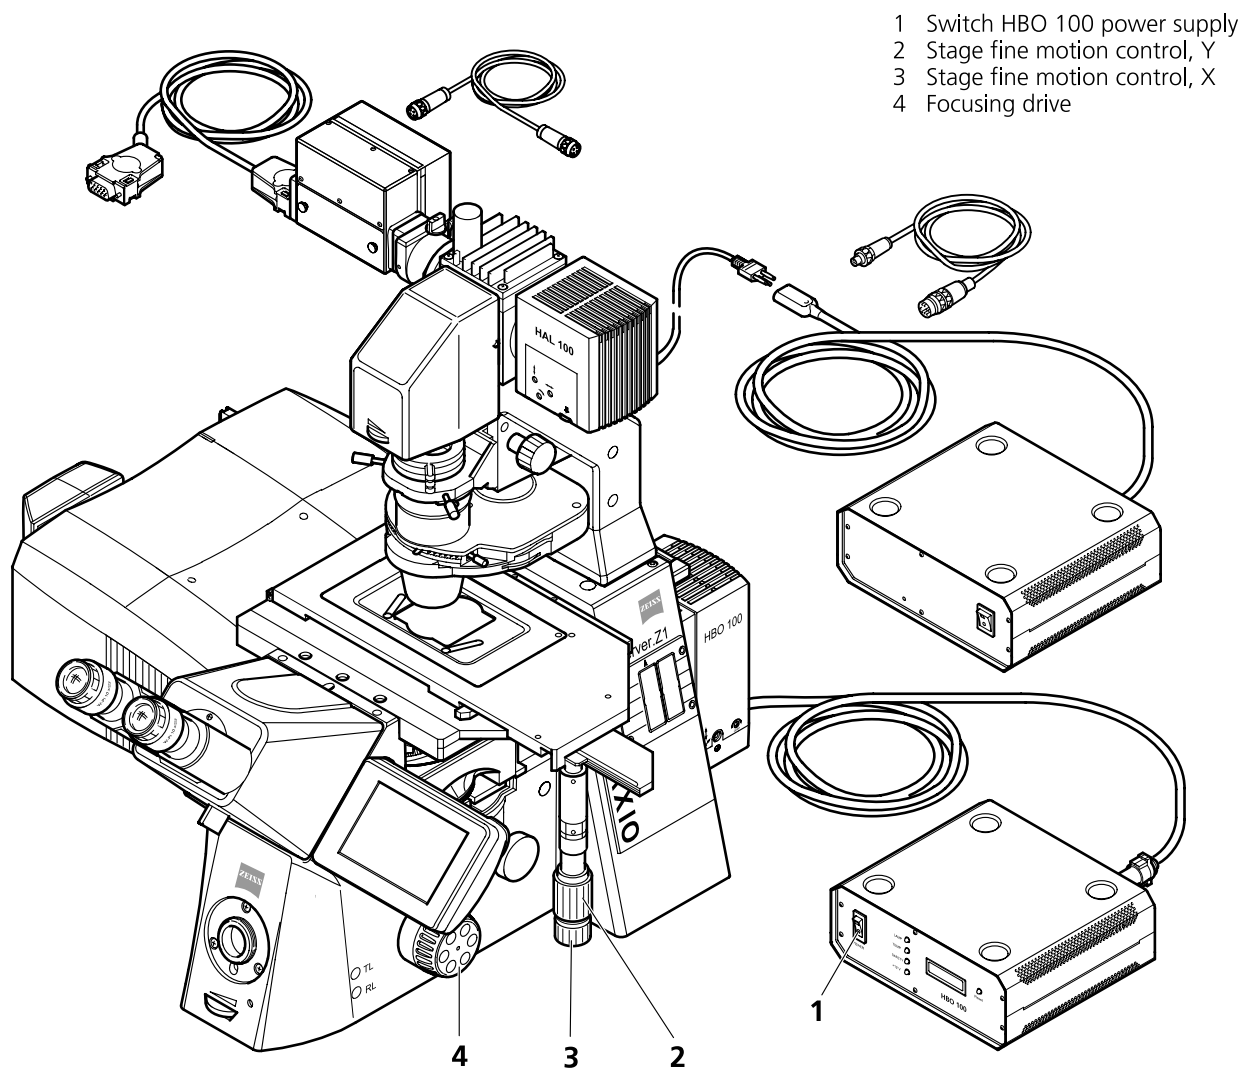

Fig. 5-7 LSM 710 with Axio Observer.Z1
- Use the focusing drive (Fig. 5-7/4) to focus the required specimen plane.
- Select specimen detail by moving the stage in X and Y via the XY stage fine motion control (Fig. 5-7/3 and 2).
(2) Microscope settings on Axio Observer for transmitted-light observation
(3) Microscope settings on Axio Observer for reflected-light observation (Epi-fluorescence)
- Turn on the HBO 100 power supply switch (Fig. 5-7/1).